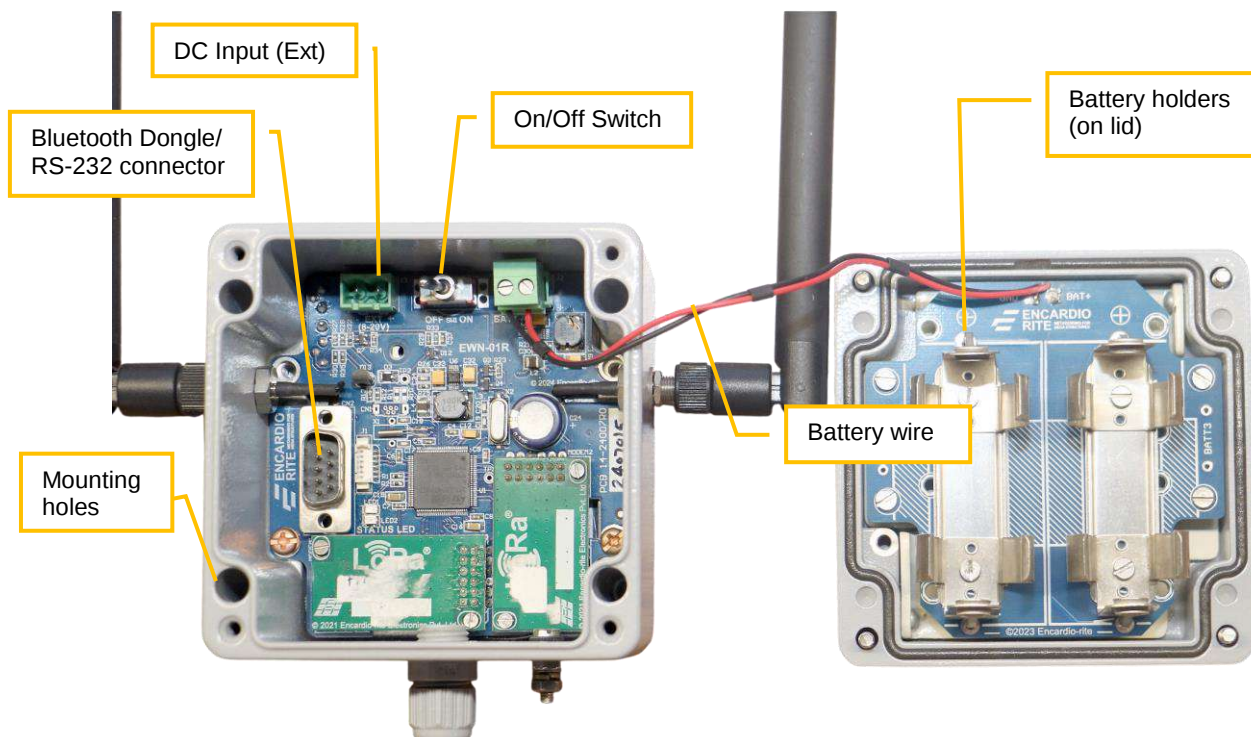

Figure 5-2 EWN-01R Relay Node details
- Open the top cover with a screwdriver. A description of each part of the Node is given in the figure 5-2